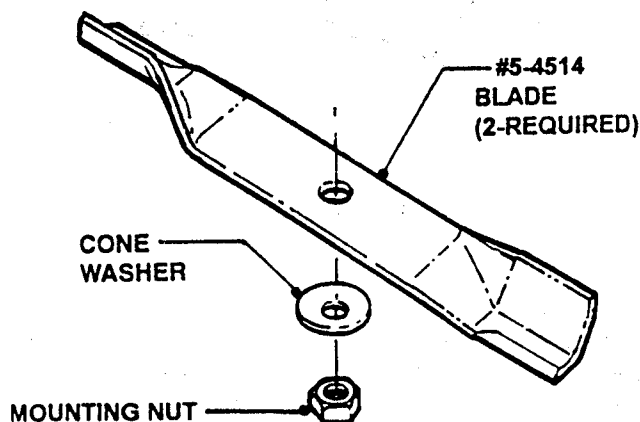

FIGURE 2
STEP 2: High Lift Blade Installation. Engines that produce 14 horse power or more. Remove existing blades from mower. Note: Save old blades for later use when not bagging grass. Using existing hardware and install high lift type blades. Torque blade retaining bolts to 80 to 90 ft. lbs. See Figure 2.